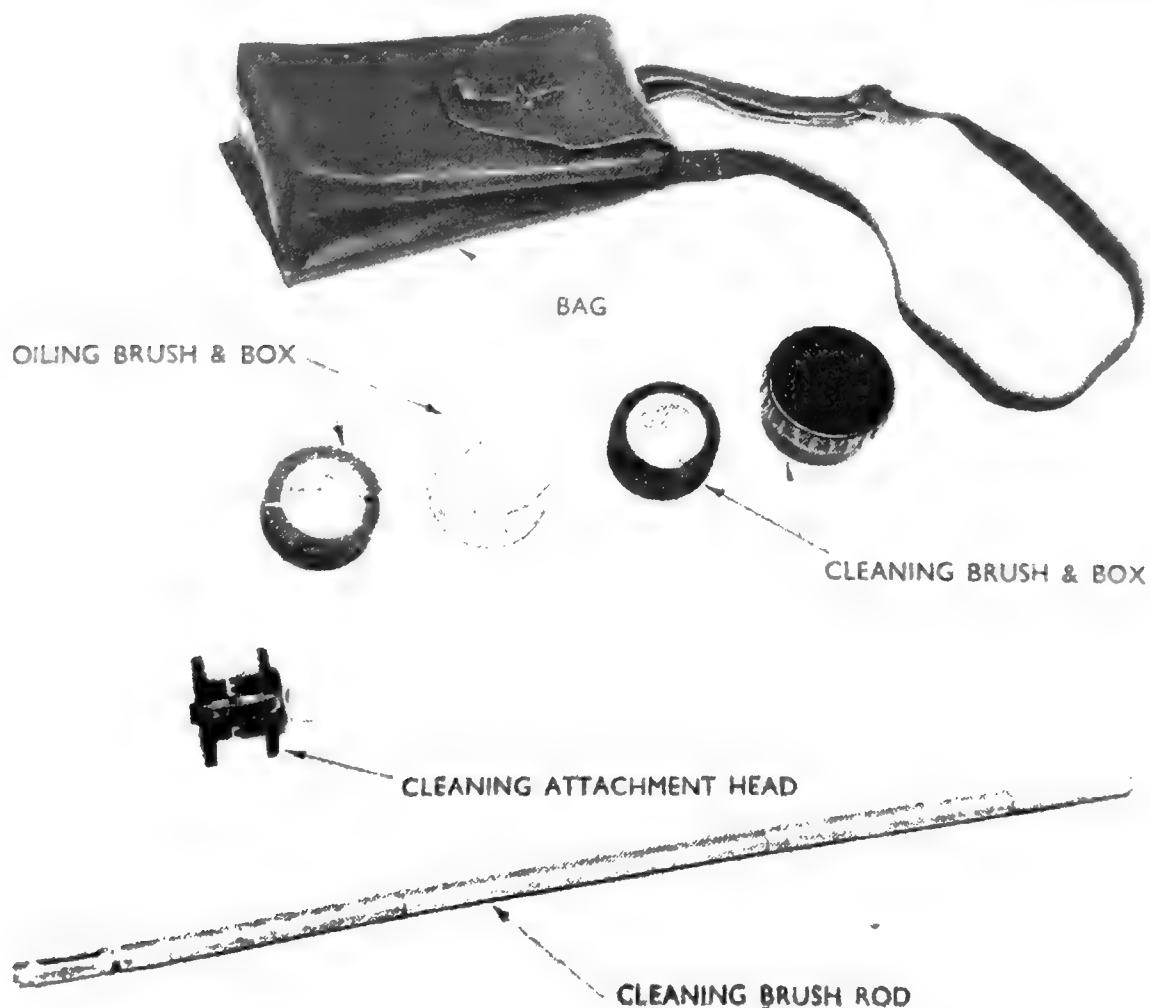

Fig 2 No. 1 Cleaning Tools Bag
13. Bag, tools cleaning, filled, No.1 Mk.1 (Fig 2).